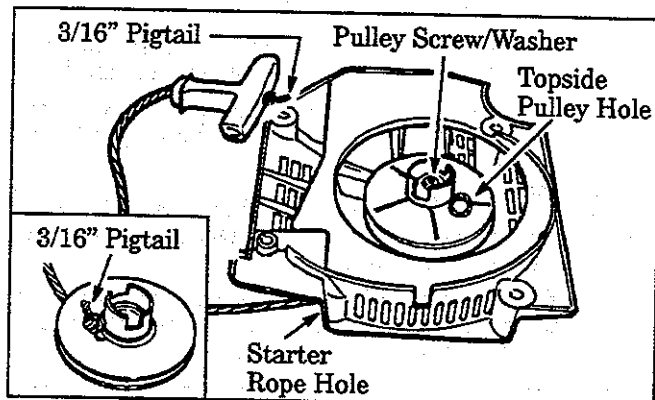

Figure 39
6. Remove the pulley screw/washer in the center of the pulley. Figure 39.
10. Feed the rope through the hole in the handle. Secure the rope with a knot, leaving about a 3/16" pigtail. Figure 39.
11. Feed the rope through the round starter rope hole in the fan housing. Figure 39.
12. Guide the rope inside the pulley, then up through the pulley hole to the outside. Figure 39. Secure the rope with a knot, leaving about a 3/16" pigtail. Figure 39 (inset).